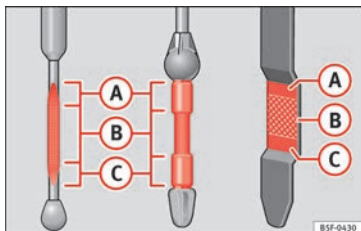

Fig. 248 Engine oil dipstick.
- Then pull it out once more and check the oil level » **Fig. 248**. Top up with engine oil if necessary.
If the oil level is above area » **Fig. 248 (A)**, do not start the engine. This could result in damage to the engine and catalytic converter. Contact a specialised workshop.
The oil level must never be above area » **Fig. 248 (A)**. Otherwise oil can be drawn in through the crankcase breather and escape into the atmosphere via the exhaust system.